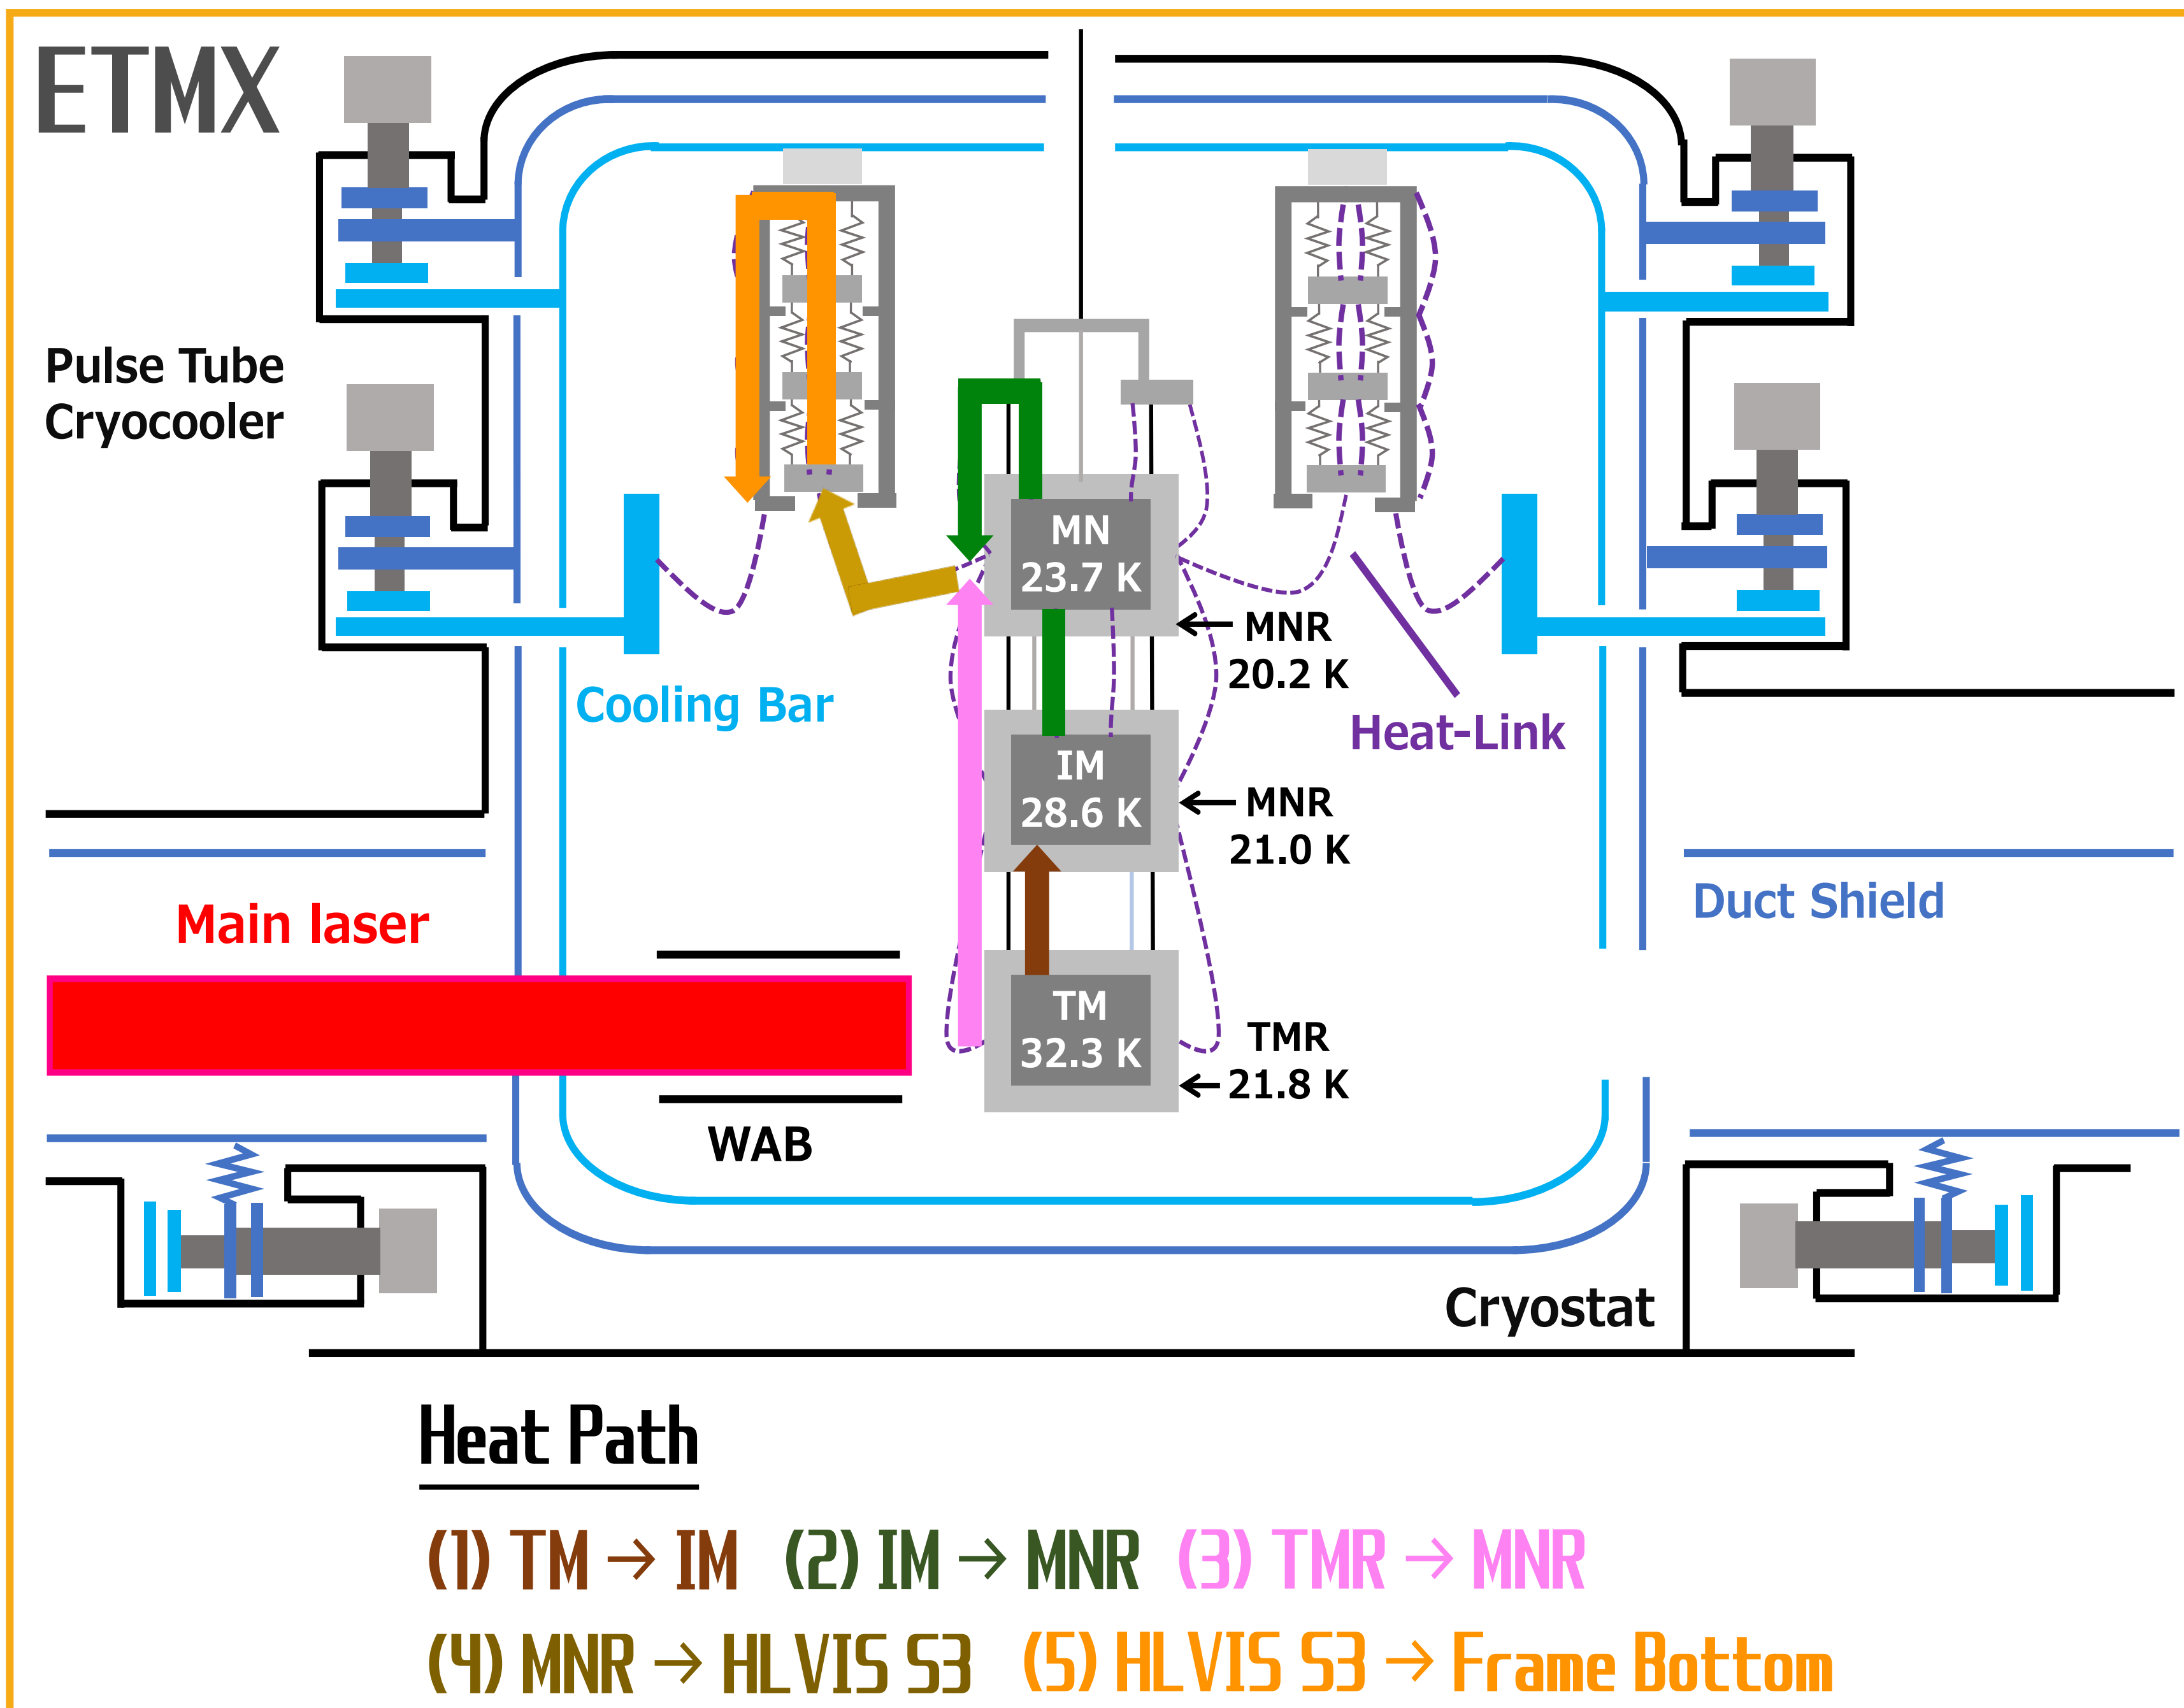

Fig1. KAGRA cooling system and heat path (ETMX).
- For conductive cooling, heat links are connected to the suspension system (sapphire fibers between TM & IM), and there is heat flow (P) through them [1].
- The parameters needed for the calculation are the values in [2], and temperature gradient ΔT is calculated from the current cooling conditions (Fig1).